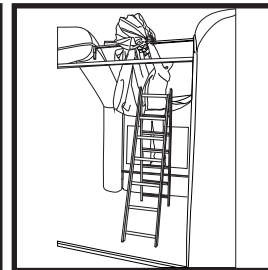

Fig. 6
8. Zip the wall and roof (this is one sheet of fabric) with the zipper to the module (Fig.6). Repeat for each sheet of fabric.